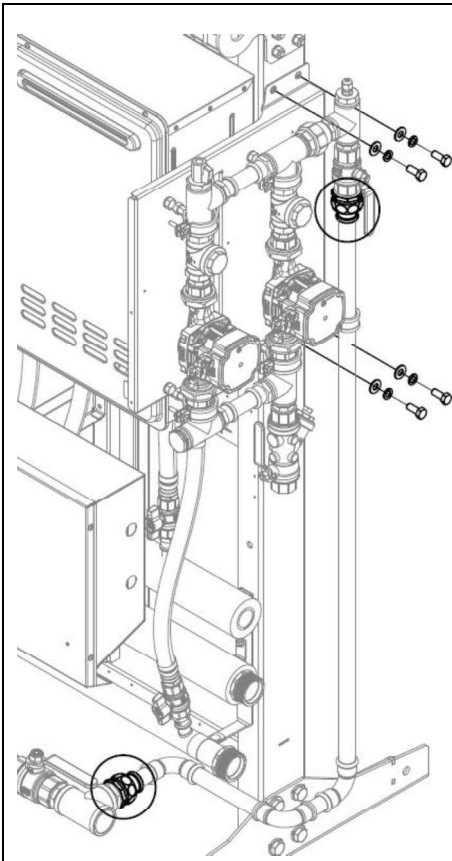

Figure 6
5. For systems with UPM 3 or UPM XL secondary pump assembly fitted, loosen two unions to remove the piping running from the outlet of the secondary pump assembly to the cold water supply tee fitting **Figure 6**. Undo the pipe clamps securing the piping. Disconnect the power connector on the pumps and carefully cut any cable ties holding the power cables in place. Disconnect the temperature sensor from the dry thermowell by undoing the cable gland and cut any cable ties holding the sensor cable in place. The secondary pump assembly can now be removed by unscrewing four bolts securing the pump bracket to the frame upright **Figure 6**.